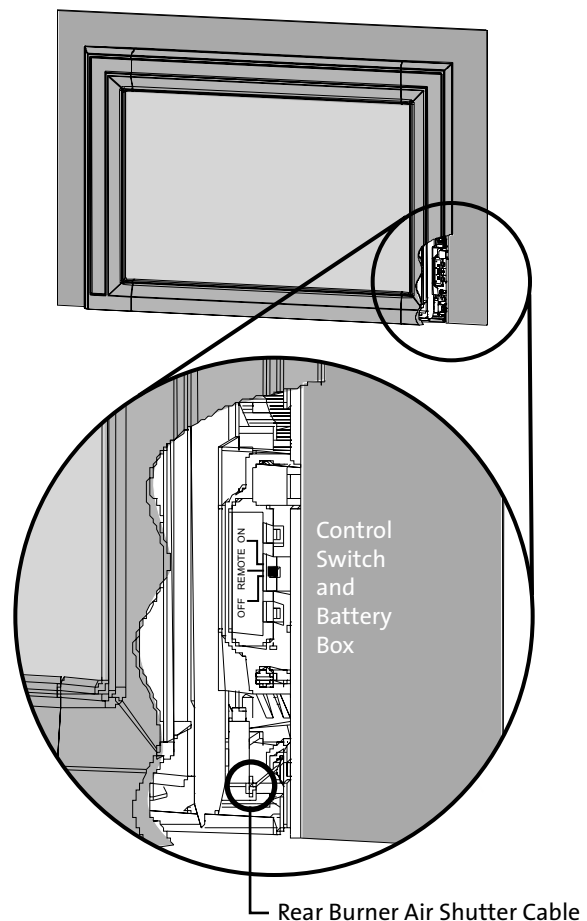
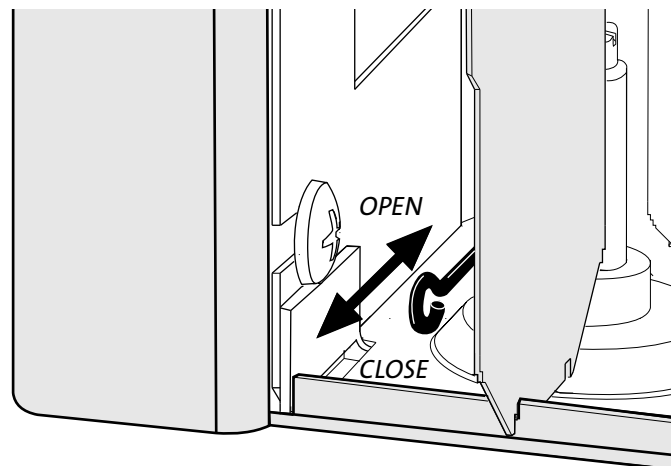

Figure 68. Fireplace Control Switch / Battery Box location.
Figure 69. Front Burner Air Shutter Cable location - Left-side Compartment.
- Battery Installation:** In the event of a power failure, install the four, 1.5v AA batteries into the IFC Back-up battery box in the right side firebox compartment. See Fig. 68. Do not leave them in the battery box permanently as the box will corrode.
The volume of air supplied to the front and rear burners is regulated by individual air shutters which are controlled in turn by cables located at the each side of the firebox. The right cable controls the Rear Burner air (fig. 68) and the left cable controls the Front Burner air (fig. 69).